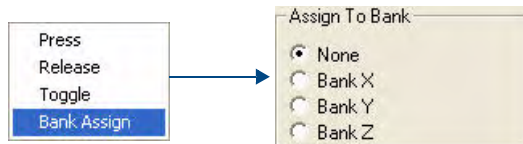

FIG. 73 Button > Bank assign
2. In the menu bar, select **Button > Bank assign**. This invokes the *Bank Assign* options (FIG. 73):